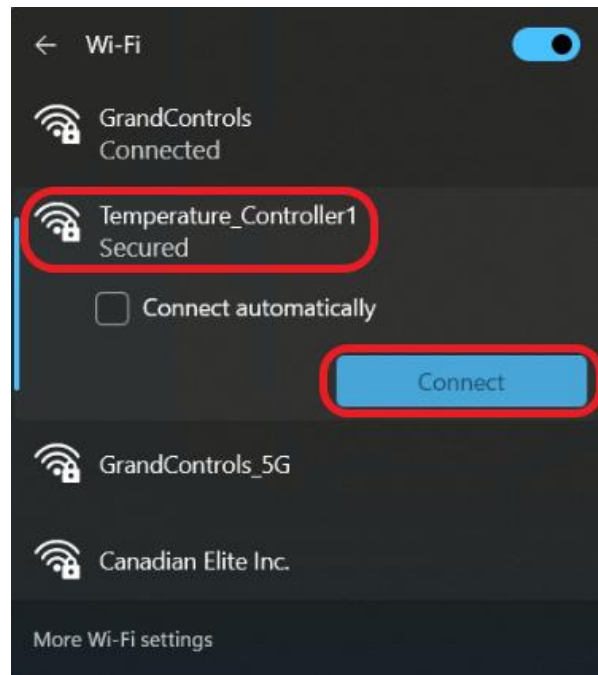

Figure 22: Wi-Fi Connection - Network connection menu
3. On your computer, in the bottom right corner on the task bar, click on the Wi-Fi symbol and find the Wi-Fi network "Temperature\_Controller1" and click "Connect" – both highlighted in Figure 22 below.